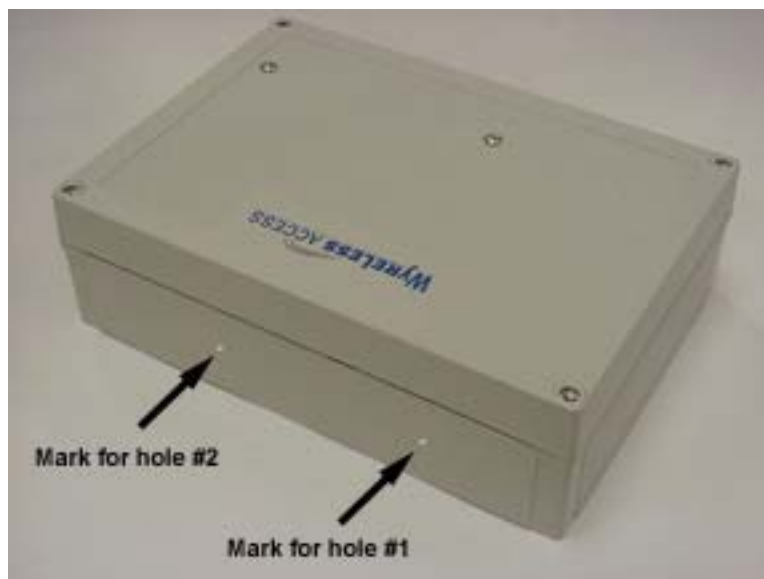

Figure 5-9 – PIM-OTD Antenna Hole Locations
5.7.3 Drill a ½" hole in the top of the PIM-OTD enclosure (Figure 5-9).